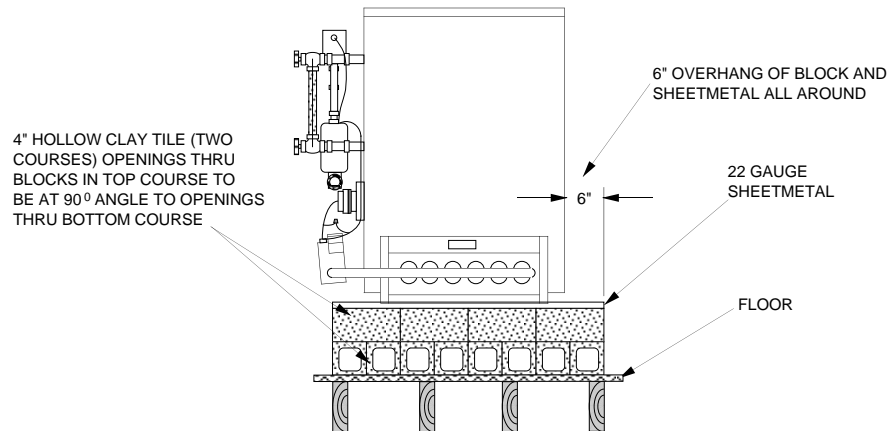

FIGURE 2.2
2. Install on non-combustible floor only, unless local codes permit use and fabrication of a fireproof base (see Fig. 2.2).